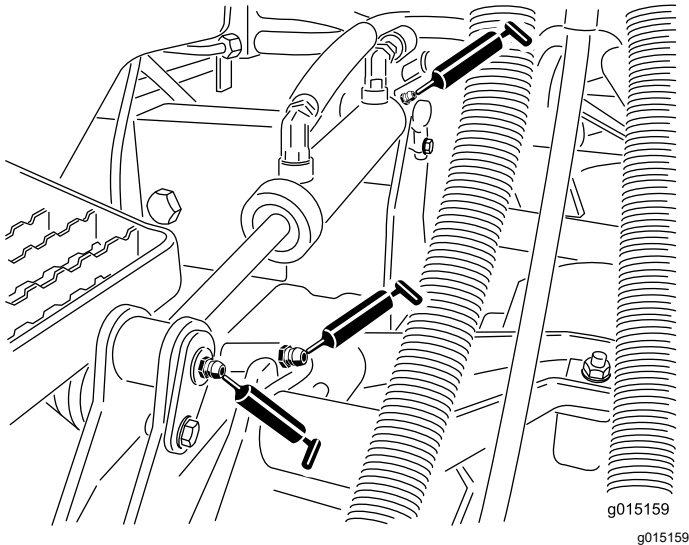

Figure 50
- Lift arm bushings (1 per cutting unit) (Figure 50)
- Lift cylinder bushings (2 per cutting unit) (Figure 50)